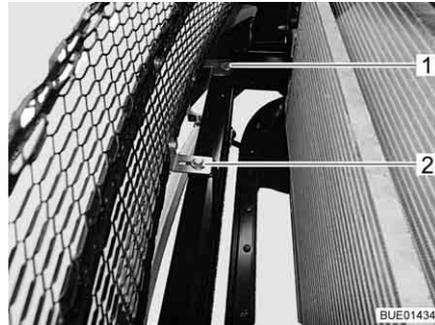

Fig. 290 Fixing the plastic projection
- On the front frame, unscrew and remove 2 screws (Fig. 290,1 and 2) with washers.
- On the apron next to the engine bay opening, unscrew and remove 2 screws (Fig. 290,4) with washers.